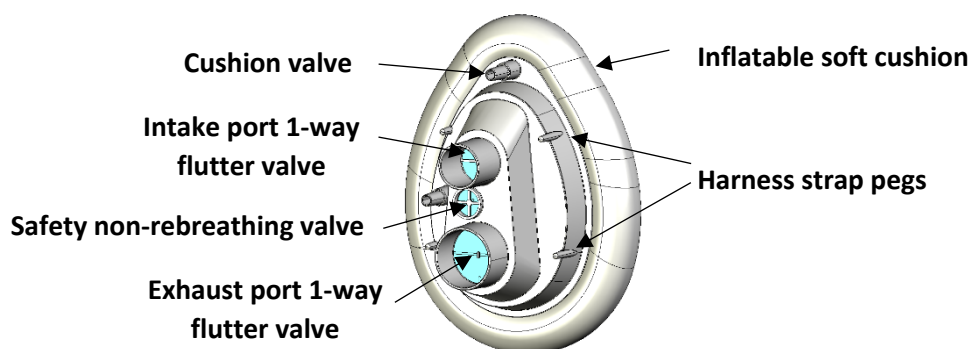

Fig. 15. Two-port mask diagram
- The mask exhaust flutter valve on Fig. 15 must flutter throughout the respiratory cycle, with a smaller flutter during inspiration.